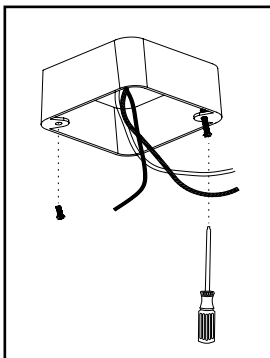

Figure 1
2. Remove the diffuser from the back plate and install electrical the screws into the junction box, with 2/3 inside and 1/3 inside (see figure 1).